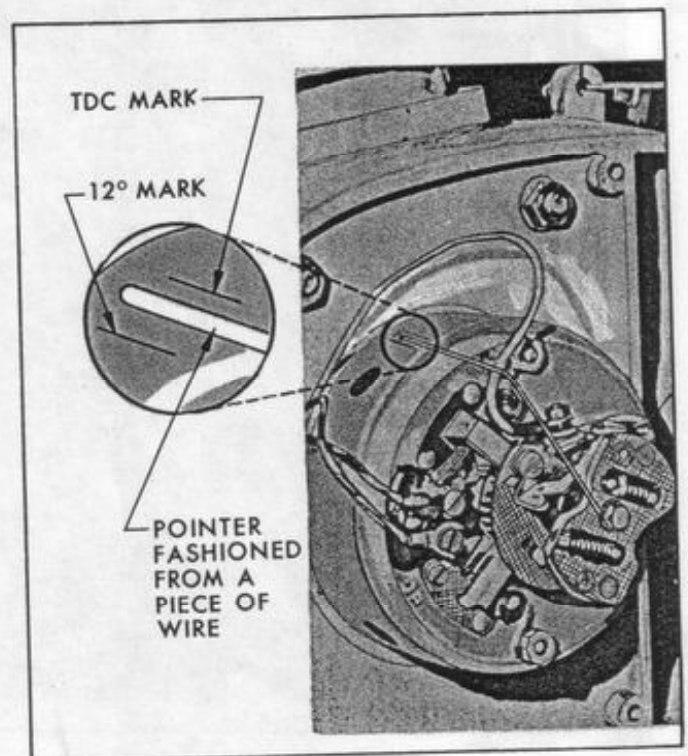

Figure 10.
- b. Bend the other end so that it will pass over the reference marks when the looped end is mounted under the generator bolt on the end of the crankshaft as shown in Figure 10.